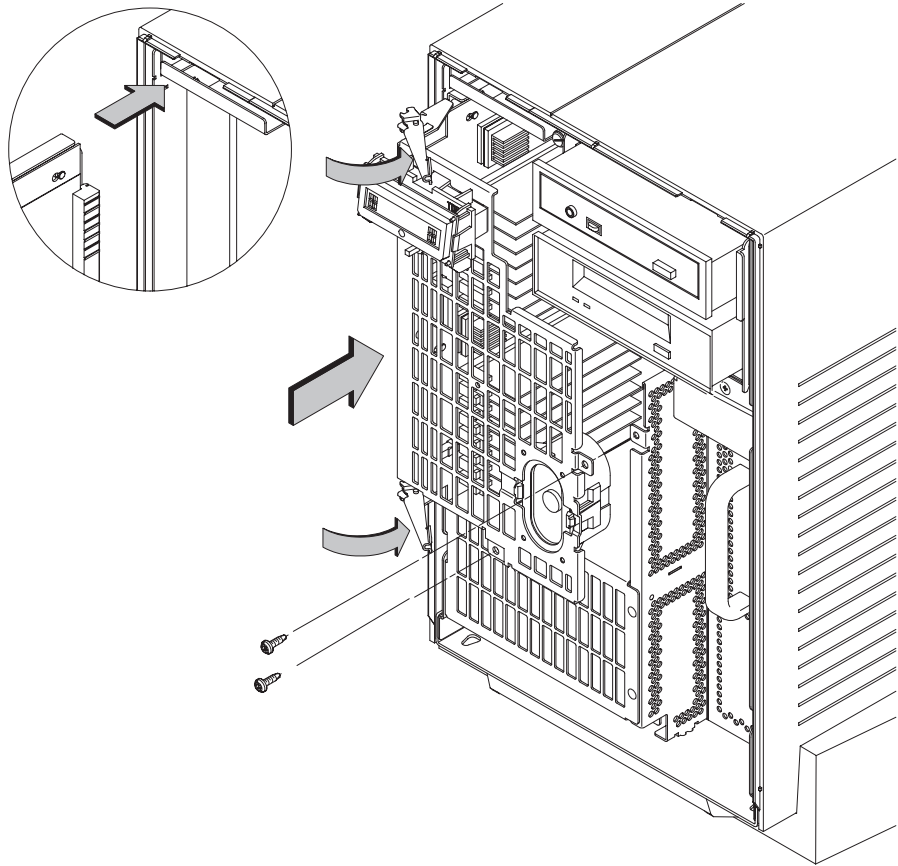

Figure B-26. Replacing the CPU Assembly
13. To replace the CPU Assembly in the system unit, first align the top of the CPU Assembly with the guide on the system unit. Refer to Figure B-26 and to the label on the back of the assembly. Be sure to support the CPU Assembly properly while replacing it.
Next, align the bottom of the CPU Assembly with the guide on the system unit. With the ejector latches in the open position, slide the CPU Assembly into the system unit as far as it will go. See Figure B-26.